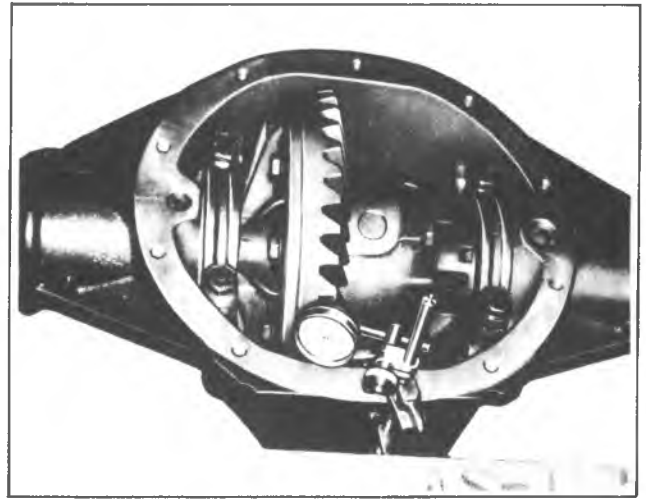

Fig. 10B—Checking Ring Gear Backlash
13. Mount a dial indicator on the carrier and check the backlash between the ring gear and pinion, as shown in figure 10B. The backlash should be within the range of 0.005"-0.008". Check gear lash at four different equally